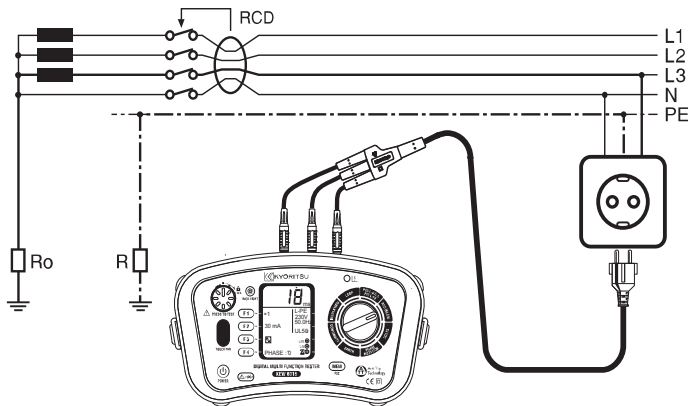

Fig.35
Ground being imperfect in the Fig35, when R exists, when a fault current flows to R, electric potential occurs. There is a possibility the person contacting in this imperfect ground, it calls the voltage, which it occurs in the human body of this time, called U_c .
- Connect the test leads to the circuit to be tested. (Fig.35, 36, 37)